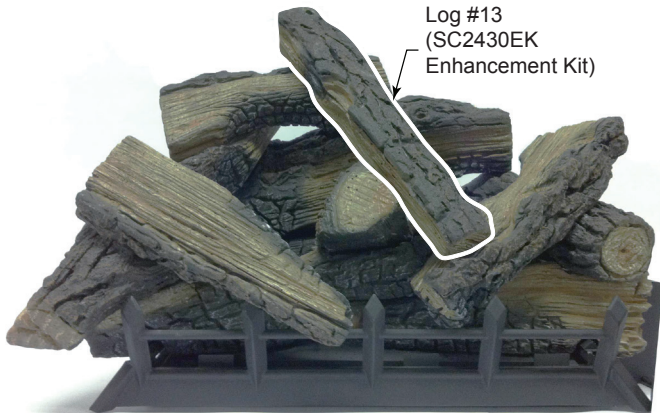

Figure 44
- Place log #13 onto log #12 and top front right log (#10) by placing notch on bottom of log onto locating block on log #12. Rest bottom of log onto log #10 and center log (#9). *Figure 44*